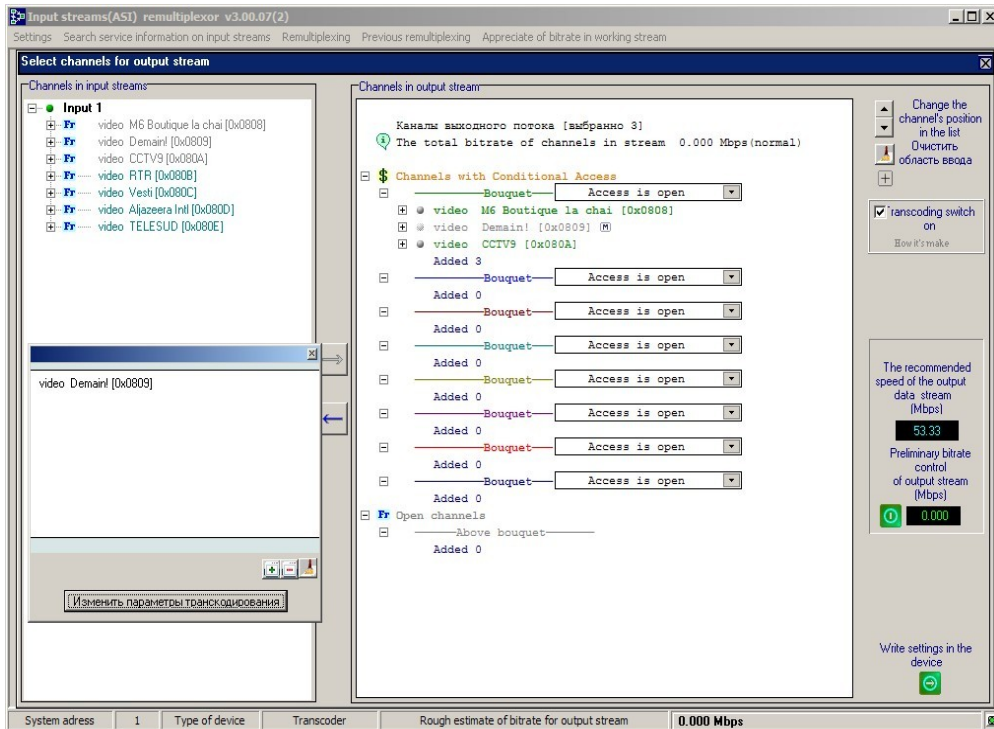

Fig.3.14
- Select input programs that you wish to add to the output stream and drag them with mouse to the right window ( Fig. 3.14).
Having made the required changes, click "OK" and the previous window will return(Fig. 3.14)